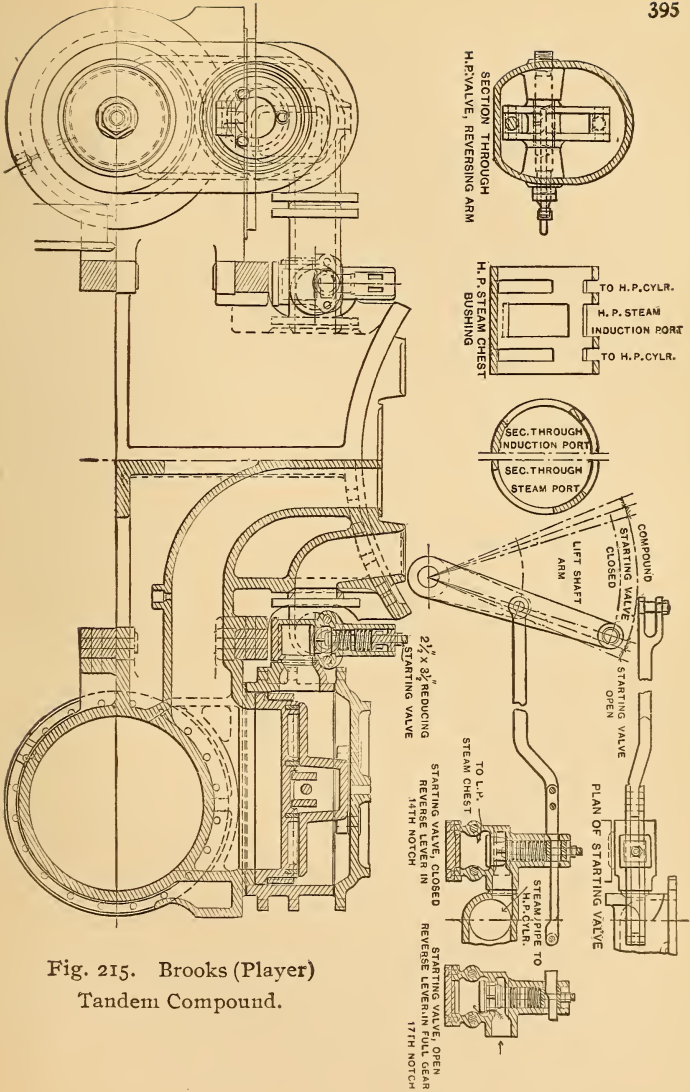

Fig. 215. Brooks (Player) Tandem Compound.
A. There is a structure (see figure 215) containing the low-pressure cylinder and saddle and the final exhaust-passage and the live-steam passage connecting with the boiler, to this is also attached the low-pressure steam-chest; this cylinder structure being right and left and interchangeable with that on a single-expansion locomotive. On the front end of this low-pressure cylinder-structure is attached another structure containing the high-pressure cylinder and its steam-chest, having connection with the live-steam passage of the low-pressure cylinder-saddle by a connecting-pipe attached thereto. The rear end of the high-pressure steam-chest is enlarged to form a receiver, and is connected to the front end of the low-pressure steam-chest.
A. There is an automatic reducing starting-valve (figure 215) which admits reduced-pressure live steam to the low-pressure cylinders when starting, or at other times when it is desired to increase the engine-power. This starting-valve is operated by the reverse-lever in the cab so as to admit steam only when the latter is in full forward or full backward gear.